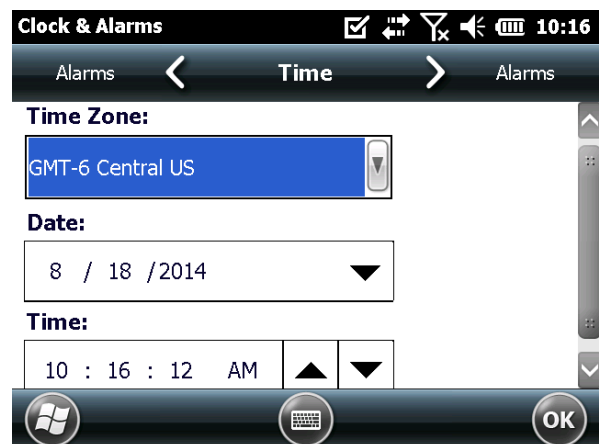

Figure 7: Adjust time zone, date, time
*Result: A screen displays as shown in Figure 7 for correcting the date and/or time.*